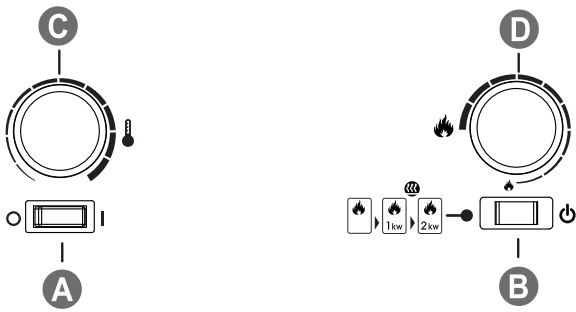

Fig.2
The Opti-myst manual controls are located beneath the hinged canopy. Raise the canopy to access the controls. (See Fig.2 for Manual Control lay out)
4. The flame control knob 'D' Fig.2 may be turned up or down to give a more realistic effect.